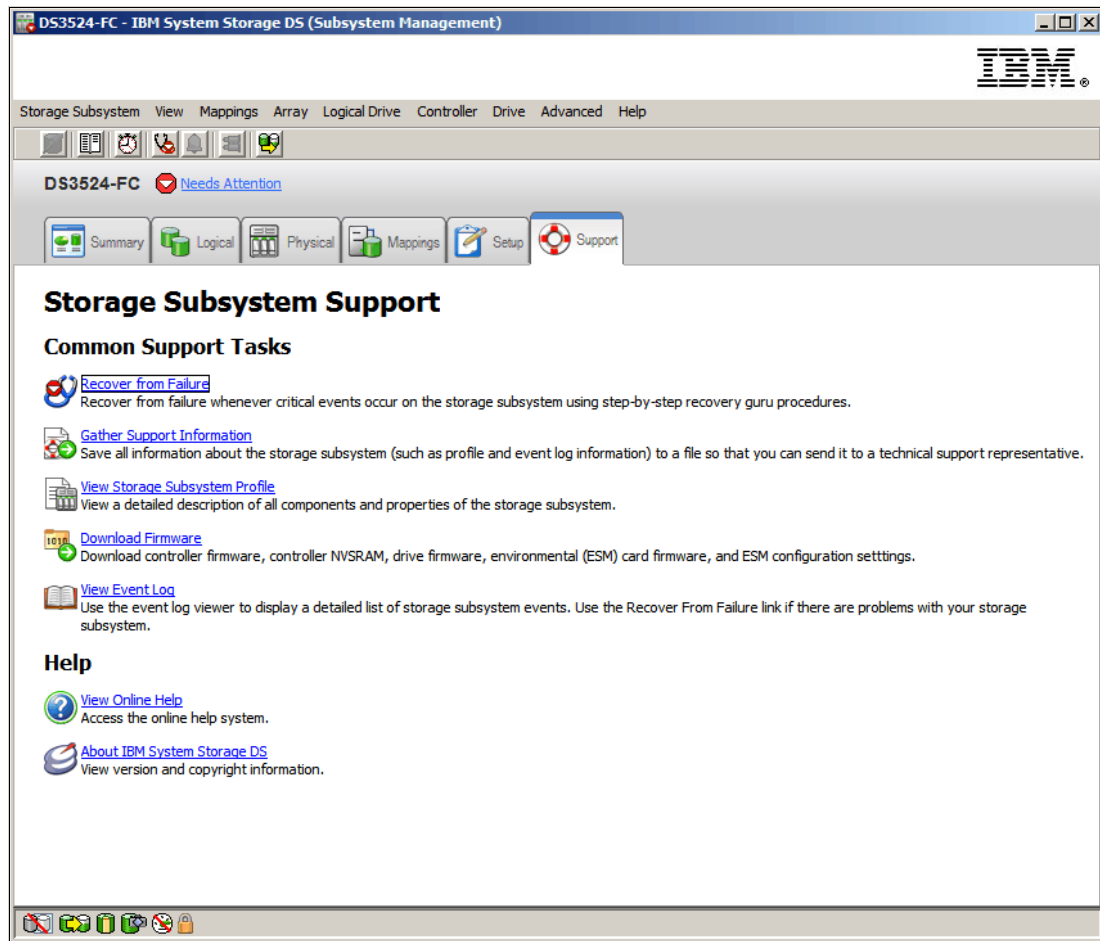

Figure 14-125 Support tab - Recover from Failure
- ▶ The **Recover from Failure** link appears in the DS Storage Manager (Subsystem Management) Support tab as shown in Figure 14-125 on page 410.